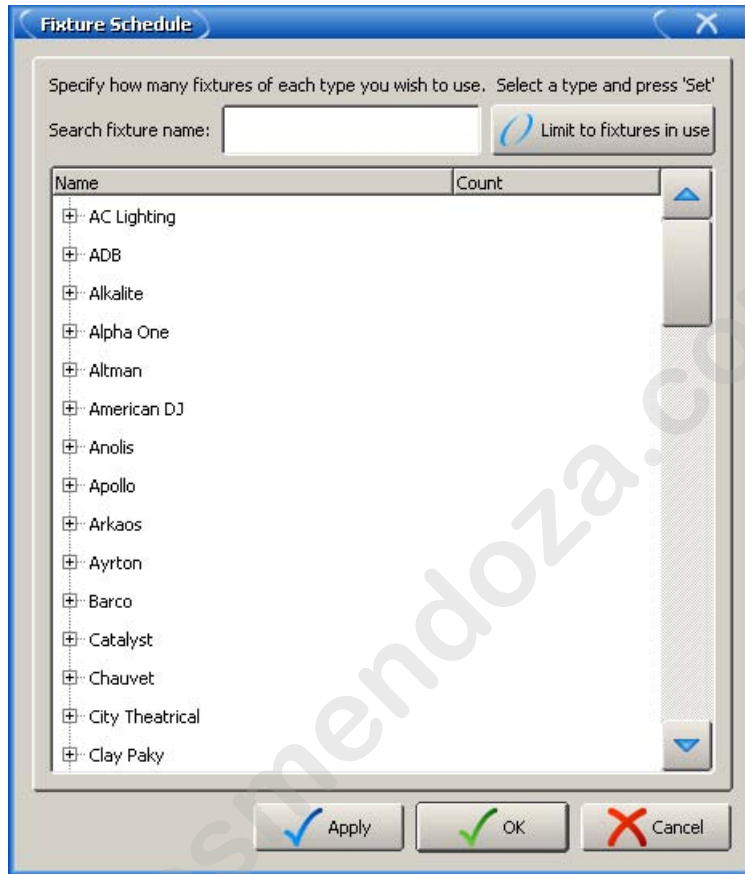

Figure 14.2. The Fixture Schedule window
You add fixtures using the Fixture Schedule dialog within the Fixture window; see *Figure 14.2, “The Fixture Schedule window”*. The Number column shows the number of fixtures of that type currently in the show.
2. Press the Fixture Schedule button in the top left hand corner of the Fixture window. The Fixture Schedule window will open with a list of fixture personalities in the current Fixture Library; see *Figure 14.2, "The Fixture Schedule window"*. Each fixture is listed under its manufacturer, while Desk Channels (conventional intensity-only fixtures such as par cans) and Scroller-Dimmers are listed under Generic.